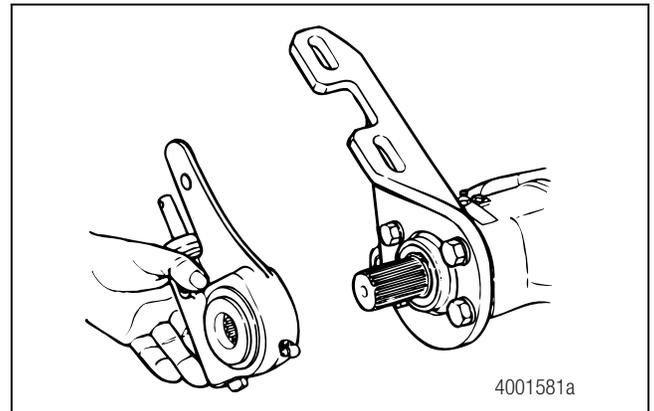

Figure 6.4
- Remove the slack adjuster from the camshaft. Figure 6.4.